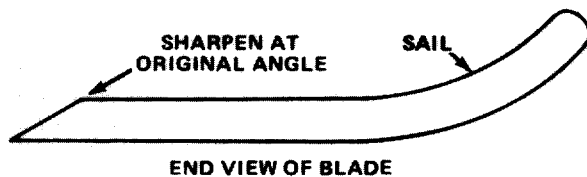

Figure 28
3. Inspect cutting edges of all blades. Sharpen the cutting edges if they are dull or nicked. Sharpen only the top side of the cutting edge and maintain the original cutting angle to make sure of sharpness (Fig. 28). The blade will remain balanced if same amount of metal is removed from both cutting edges.